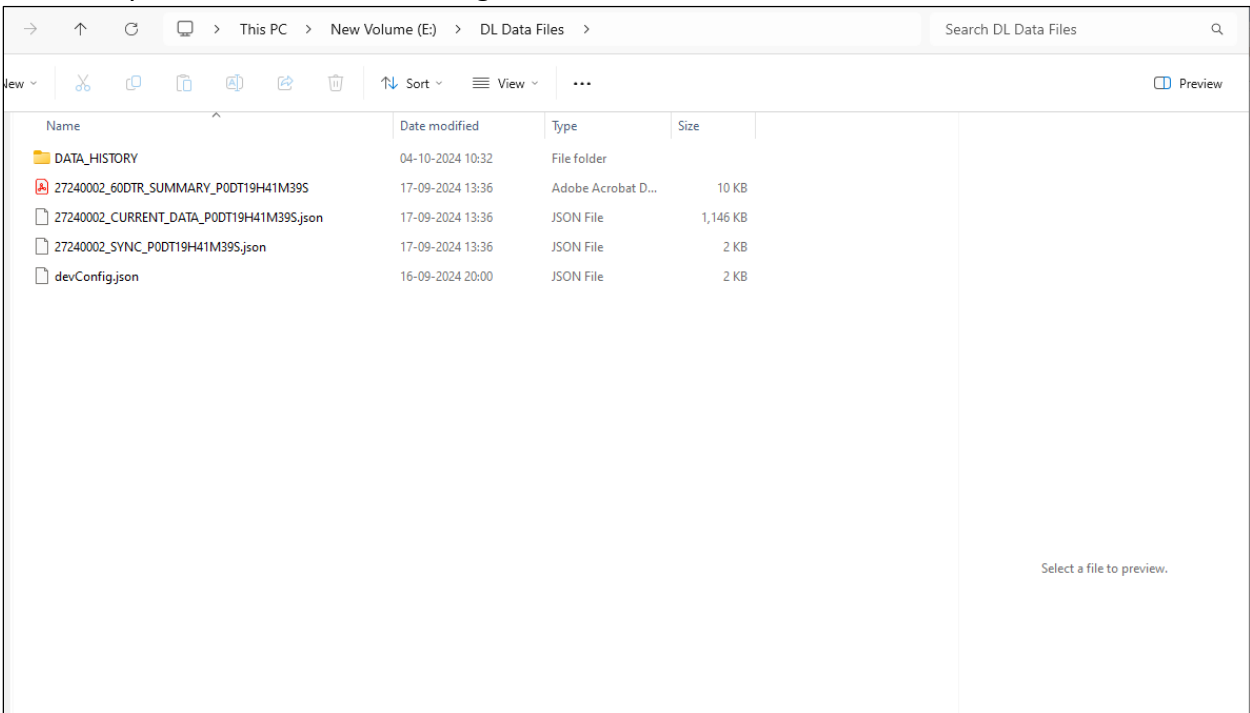

Figure 25 Downloaded Data from Equiplog Data logger
- On downloading, the root directory will consist of the mentioned Json files, PDF report and History data folder as shown in figure 25.